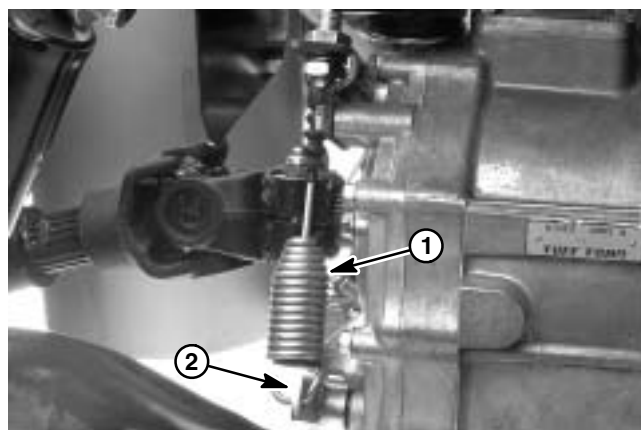

Figure 16
9. Loosen jam nut to remove differential lock cable from support bracket, then disconnect differential lock cable from lever at left rear of transaxle (Fig. 16).